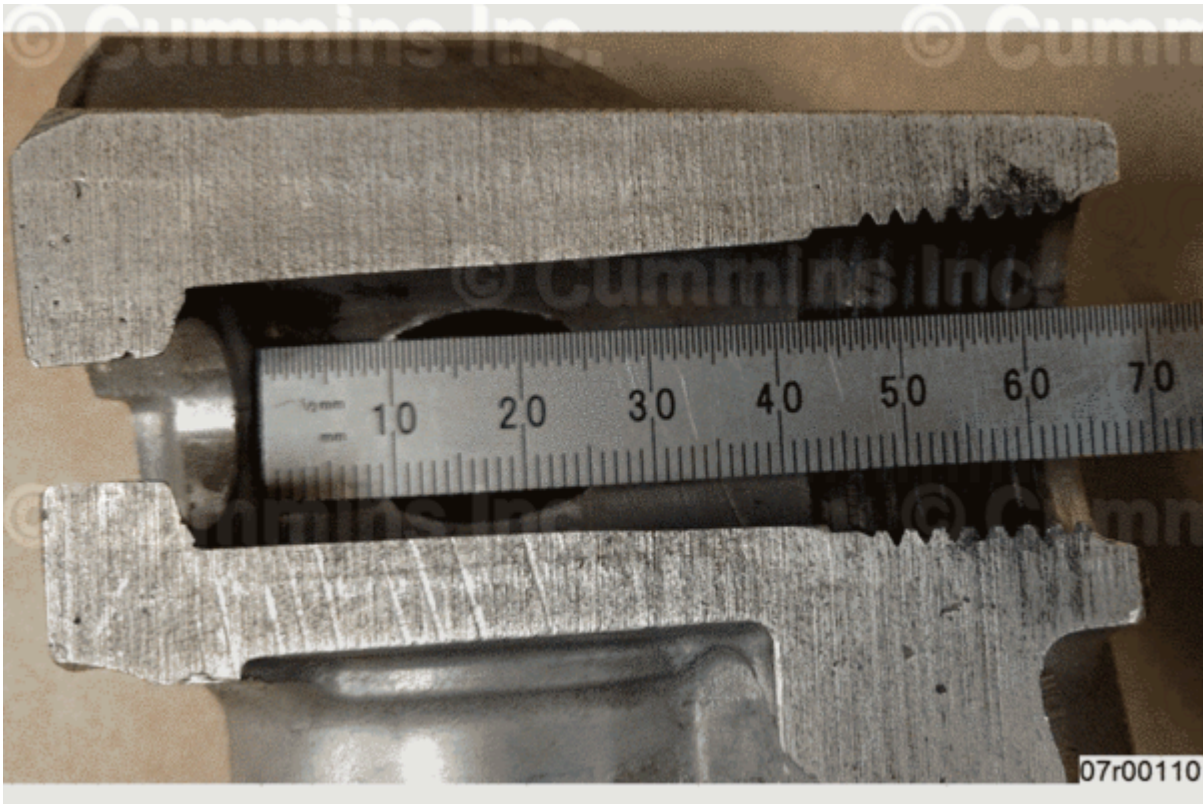

Figure 1, Measurement of Lubricating Oil Filter Head Bore.
- Use a small ruler or scale to measure depth of lubricating oil cooler head bore. Measure depth from top of countersink to outside edge of lubricating oil filter head bypass valve bore. See Figure 1 below.